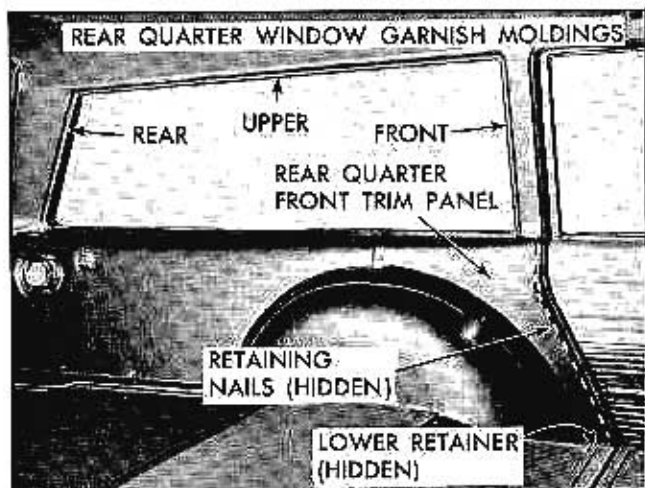

Fig. 3-10 Rear Quarter Trim Assembly—Station Wagon
6. Lift panel upwards to disengage from quarter inner panel, and remove assembly from body. (Fig. 3-10).
rearward section of rear quarter front trim panel. (Fig. 3-10).
The rear quarter window front and upper garnish moldings and rear finishing panel are secured by screws. The upper garnish molding overlaps the front garnish molding and rear finishing panel. (Fig. 3-10).